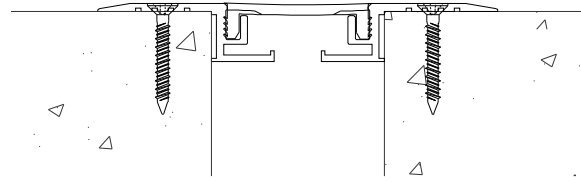

Figure 7
STEP 11. Select the fasteners and the assembled joint cover. Place the assembled joint cover back into its installed position, aligning the anchor holes in the assembly with the anchor holes in the substrate. Shim the system, if needed to assure that it is level along its run. Ensure that the joint cover system is level, firmly supported, and properly aligned. Using the fasteners provided by the factory, fasten the assembled joint cover to the substrate (see Figure 7). Repeat this procedure for each section of the joint cover system.